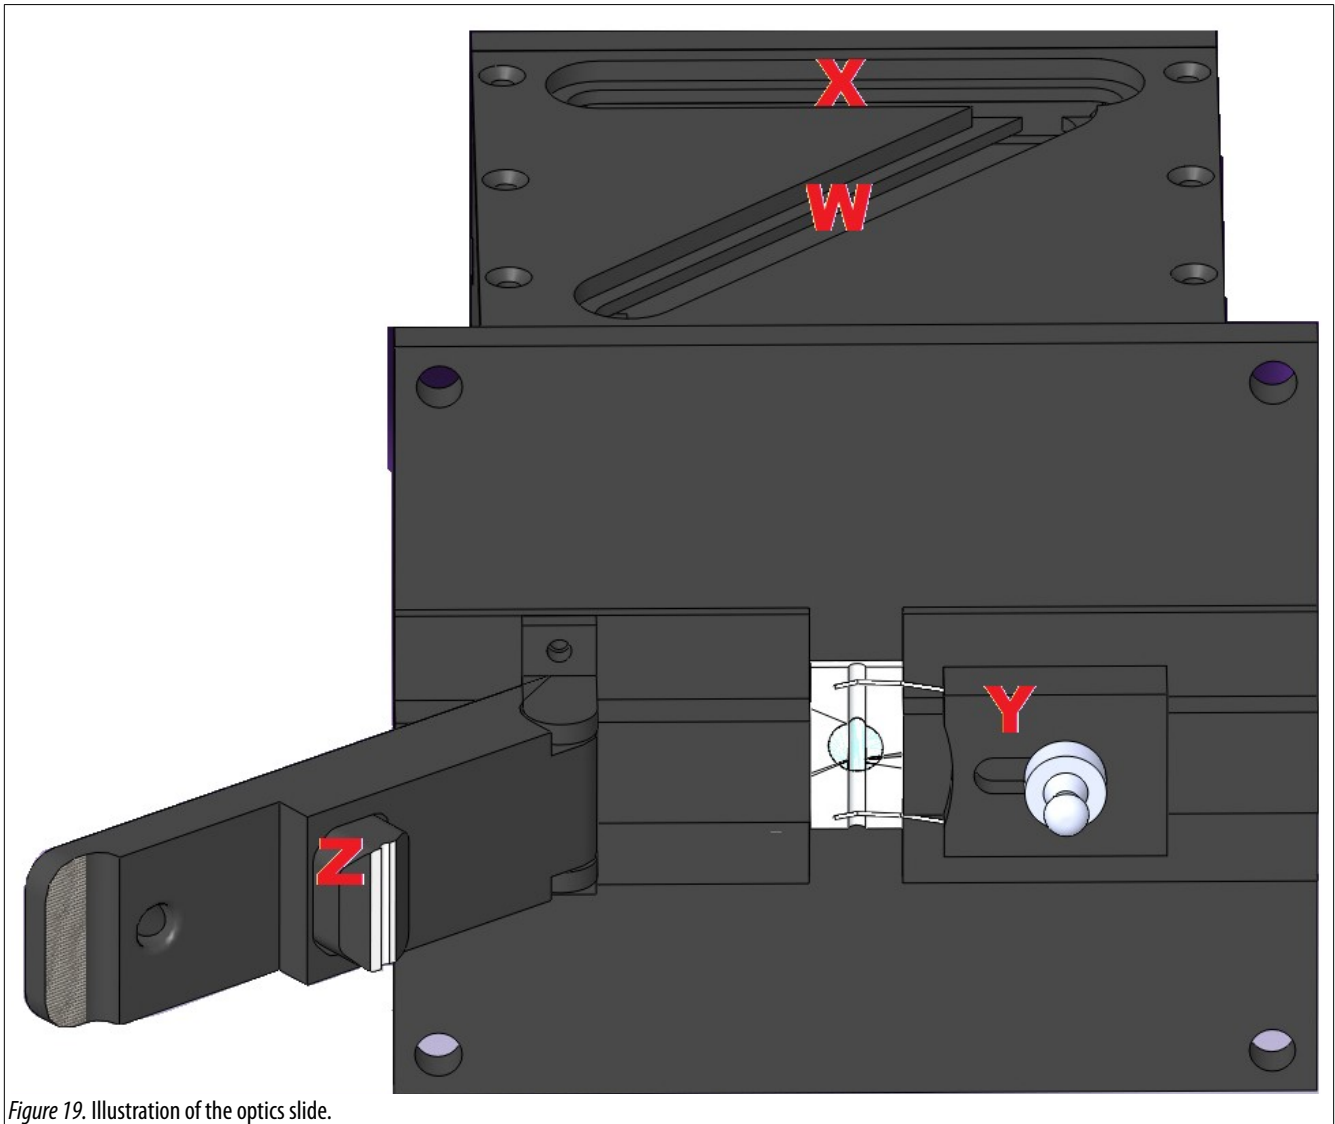

Figure 19. Illustration of the optics slide.
- Q) **Reflector Arm:** Reflects both excitation and emission light back into the flow cell (also seen in Figure 19).